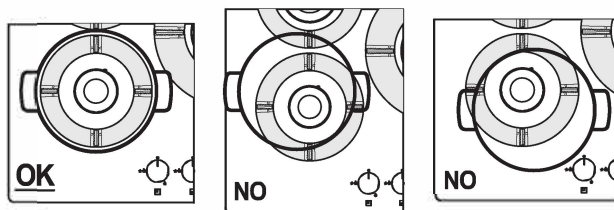

Fig. 1
The use of larger pots than those specified can cause excessive overheating of the knobs and top and, in case of prolonged use, yellowing of the cover (if in stainless steel). FRANKE declines any liability for damage due to such use (Fig. 1).
- ▷ Do not put the same pan on two burners (Fig. 1).
- ▷ Do not use two burners working at the same time with a single container, like a saucepan or a fish pan (Fig. 1).